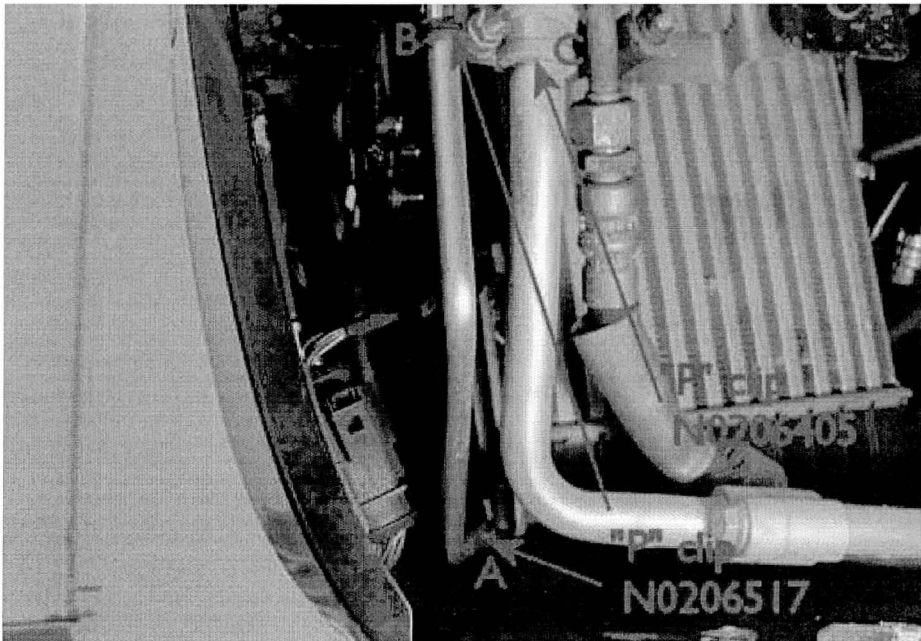

Figure 1
5. Referencing figure 1 identify the three P clips (A,B and C) located in the front left wheelarch that require replacement
6. Using a T30 bit loaded into a ratchet spanner remove the fastener securing P clip (A). Remove and discard clip A (see Figure 1 and 2)
7. Remove and discard clips B and C (see Figure 1)